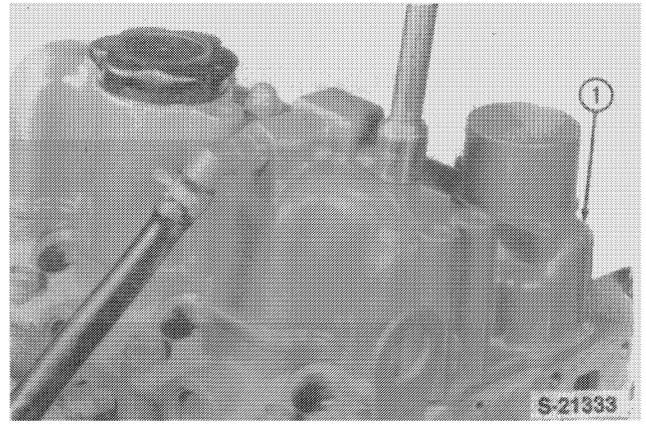

FIGURE 1-23
11. Remove the valve cover/intake manifold assembly, 1, Figure 1-23.